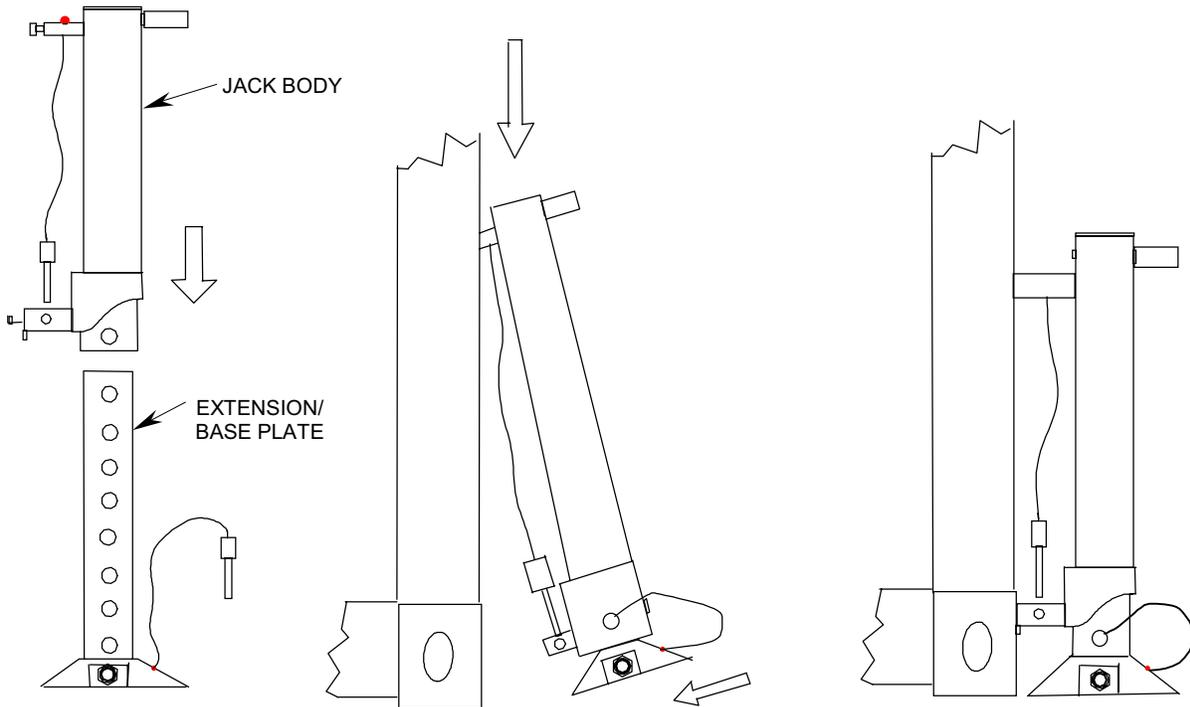

Figure 2. Corner Jack Installation.
The Power Distribution Panel (PDP), Figure 2, is located on the mechanical room wall in the serving area. The panel houses the circuit breakers that control the distribution of electrical power within the kitchen. The circuit breakers are normally closed (ON) and are only opened (turned OFF) to isolate circuits for maintenance or troubleshooting. If an electrical malfunction occurs, the breaker in the affected circuit trips (opens) to isolate the affected circuit.
■ Figure 2. Power Distribution Panel.
- Referring to Figure 2, insert a corner jack extension/base plate into each corner jack body as far as it will go. Align the bottom hole in the extension/base plate with the hole in the jack body and insert the attached locking pin to hold the extension/base plate in place. Using a jack/winch handle, ensure that the jack mechanisms are rotated fully counter-clockwise (lowered).
- The corner jacks will first be installed at the personnel door end of the container. Referring to Figure 2, and starting at either corner, attach a corner jack by inserting the studs on the jack into the end holes in the corner block. Turn the twist lock on the lower stud 90° in either direction to line up one of the arrows stamped on it with the hole in the stud. Pull the jack back slightly so the twist lock contacts the inside of the corner block. Insert the attached locking pin into the twist lock.